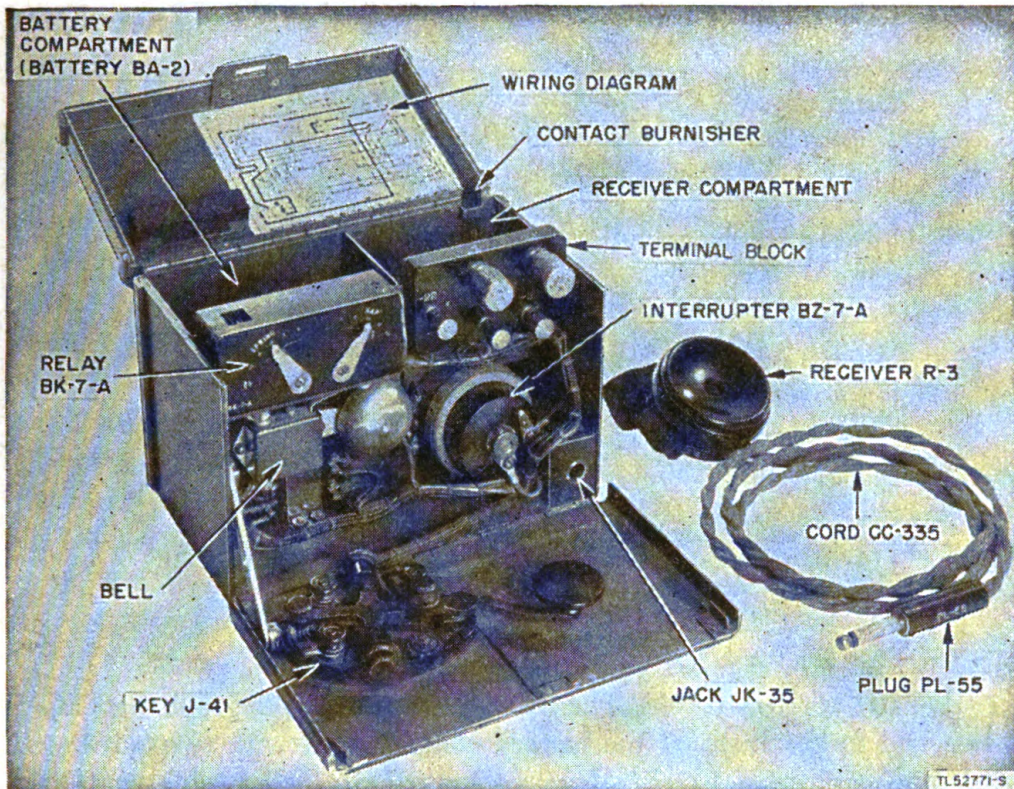

Figure 4. Telegraph Set TG-5-A, cover open.
(2) The terminal block on Telegraph Sets TG-5-A and TG-5-B consists of a molded phenolic block $2\frac{7}{8}$ inches long, $1\frac{5}{8}$ inches wide, and $\frac{3}{8}$ inches thick. Two Binding Posts TM-175 are mounted on the upper right-hand portion of the block and are labeled L1 and L2. Three Binding Posts TM-150 are mounted on the lower portion of the block and are labeled, from right to left -3 , $+$, and -22 . (See figs. 4 and 5.)
(2) *Relay BK-7-A*. Relay BK-7-A is part of Telegraph Set TG-5-A only. The relay is mounted on a bracket directly in front of the battery compartment and is similar in appearance to RELAY BK-7. Two levers mounted on the front of the relay are labeled SPRING and GAP and move over a scale graduated from 0 to 20. An opening, in the top of the relay case, provides access to the relay contacts for cleaning purposes. (See fig. 4.)
h. INTERRUPTERS BZ-7-A, BZ-7-C, AND BZ-7-J (fig. 4). Interrupter BZ-7-A, BZ-7-C, or BZ-7-J is part of Telegraph Set TG-5-A only and is mounted by means of two screws through the bottom of the box, immediately in front of the receiver compartment. It consists of a single carbon button mounted against a receiver diaphragm. When operating, the interrupter produces a continuous tone of approximately 1,000 cycles per second.